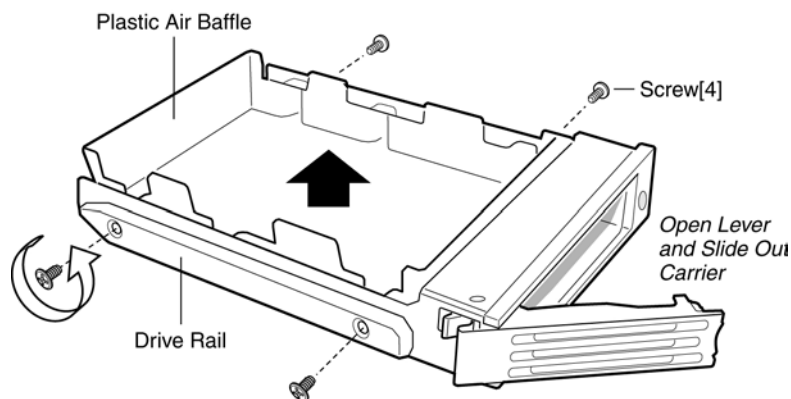

Figure 55. Removing Air Baffle from Hard Drive Carrier
5. If you are installing a hard drive into a carrier that did not previously have a drive installed into it, remove the air baffle. The air baffle is removed by removing the four mounting screws from the drive rails. See *Figure 55*.